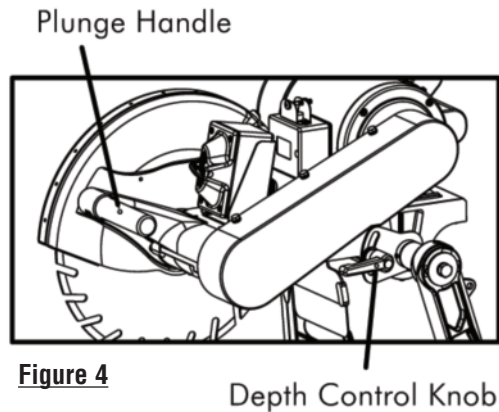

Figure 4
2. To adjust the VX141MSPROR's cutting depth, rotate the depth control knob counter-clockwise while holding the plunge handle. See *Figure 4*. Only loosen the knob enough so the cutting head freely moves.